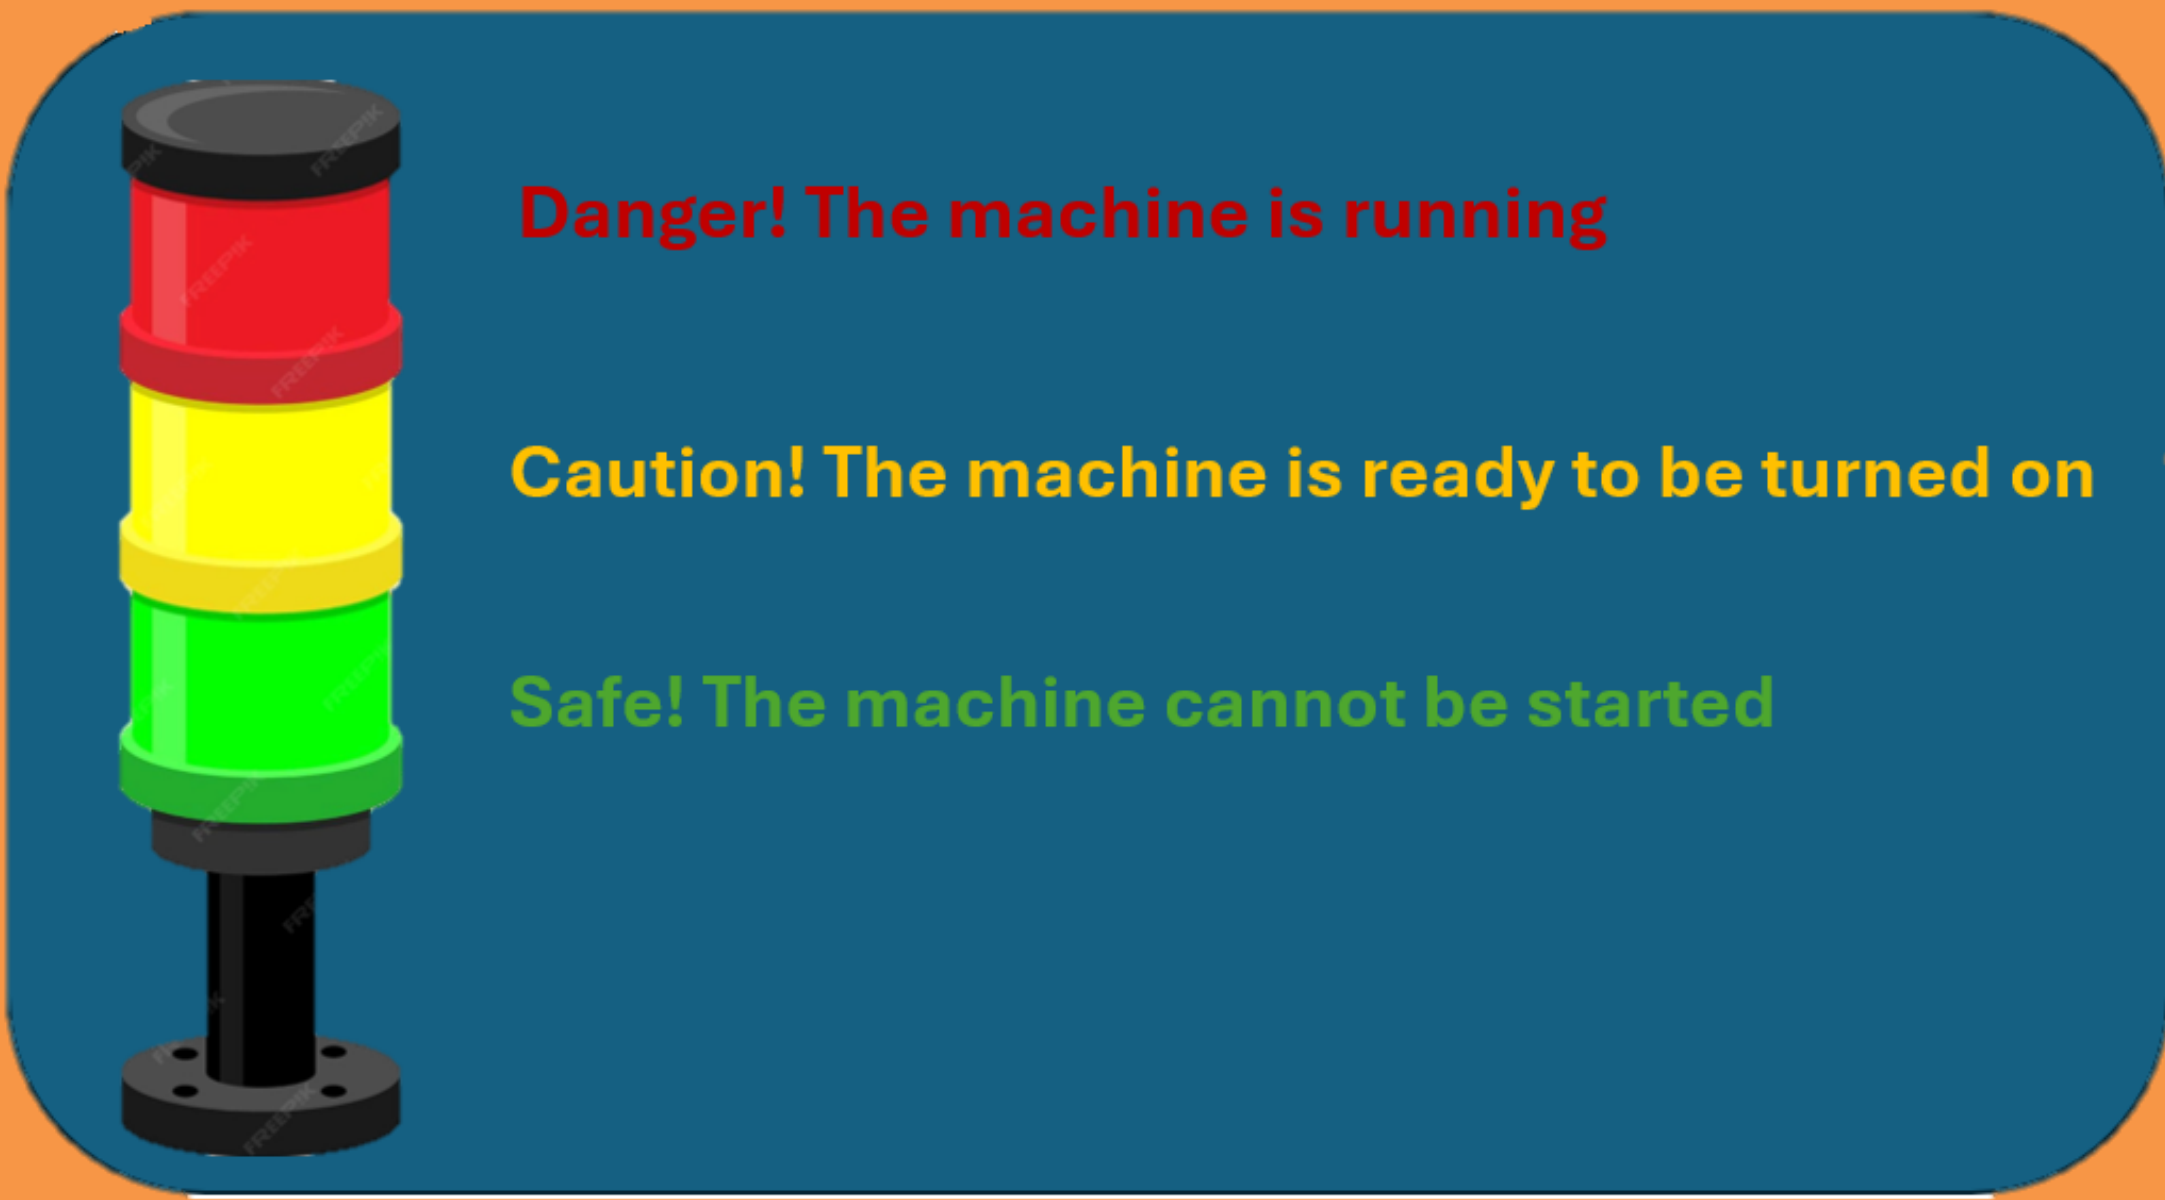

Fig 2 - Andon Light Tower (Korosi, 2025)
- Andon-style colour coded light to show machine status as shown in fig 2